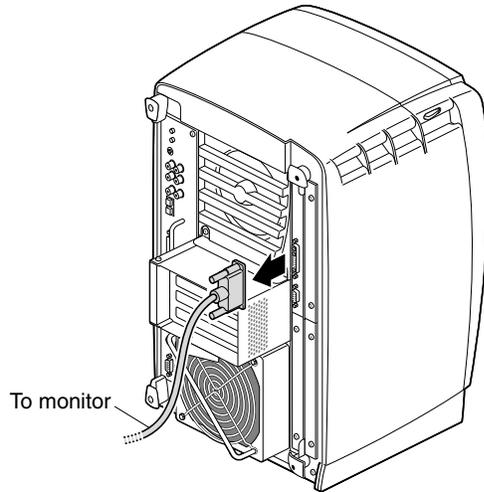

Figure 4 Removing the Monitor Cable
4. Remove all the cables from the XIO Quad-Module (only one is shown in Figure 4), then attach the wrist strap, as described in the next section.